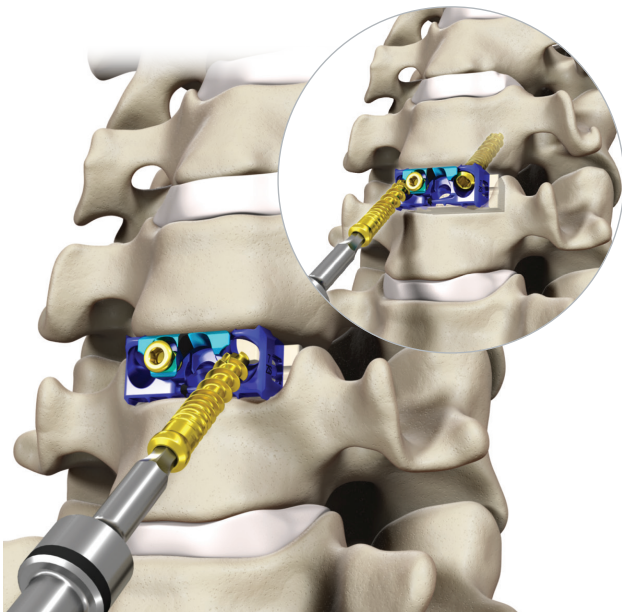

Figure 58
- Assemble the 2.0 mm hex driver and modular spin cap handle. Load the desired screw onto the driver and insert the screw through the first lateral screw hole, advancing the screw until the screw head contacts the plate to provisionally stabilize the plate. Ensure that the driver is on axis to the prepared screw trajectory during screw insertion. Repeat on the contralateral side (Figure 58).